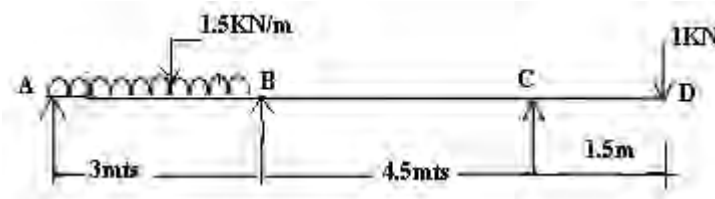

Figure 5:
1. A beam loaded as shown in figure 5. The moment of Inertia of the beam is span AB is 'I' and that in span BC is 2I. Draw the SFD and BMD of the beam. [16]